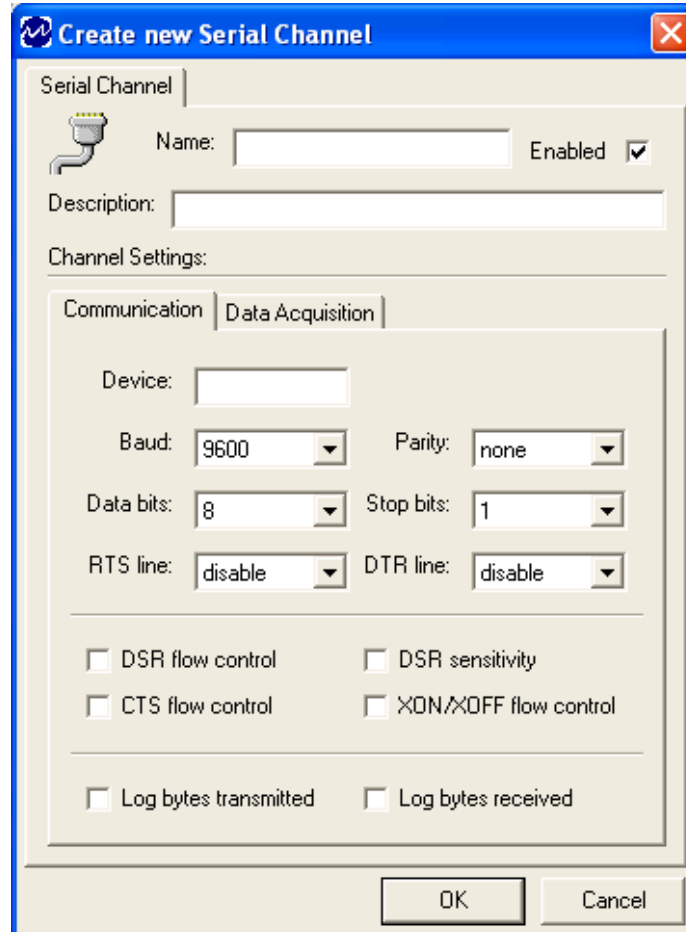

Figure 26 - Create New Serial Channel Window - Communication Tab
The **Create New** window (Figure 26) displays the settings available when creating a **Serial Channel** object.
Figure 26 displays the **Create New Serial Channel – Communication** tab.
- The **Create New** window appears (Figure 26).